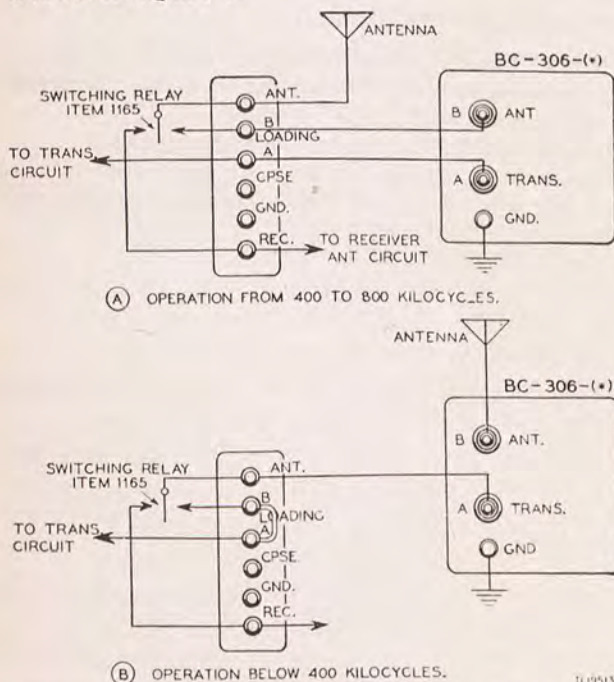

Figure 8. Methods of connecting Antenna Tuning Unit BC-306-(\*).
e. PRELIMINARY CHECKS. (1) Make certain that all power-supply equipment is turned off. Set OFF-ON switch at OFF.
(2) Connect high-voltage cords into sockets marked PL-59 on the transmitter and power-supply equipment.
(3) Connect phantom antenna to output terminal strip. (See fig. 13). If tests are to be made at frequencies of 800 kilocycles or lower, connect Antenna Tuning Unit BC-306-A as shown in figure 8.